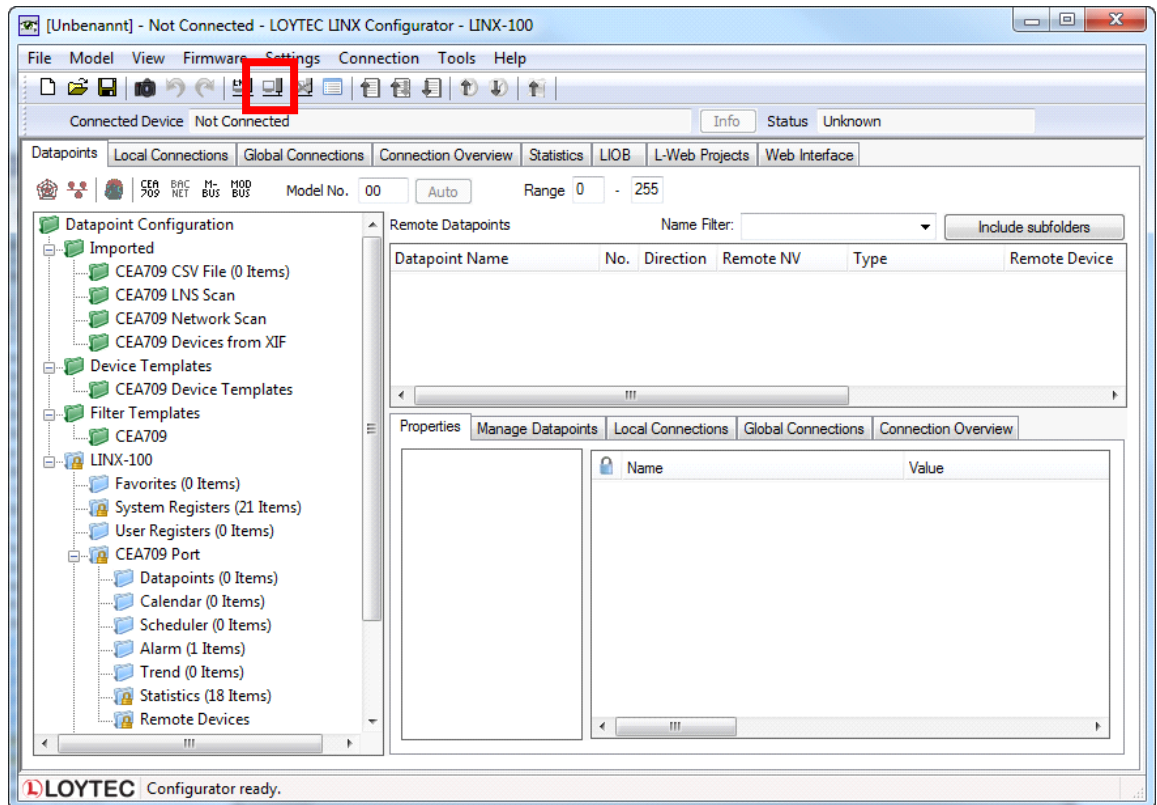

Figure 13: L-INX Configurator main screen.
1. Start the L-INX Configurator software by selecting Windows **Start** → **Programs** → **LOYTEC LINX Configurator** → **LOYTEC LINX Configurator**. The application starts up and displays the data point manager screen as shown in Figure 13.
2. When the device is online, connect to the device by clicking on the **Connect to device** speed button as indicated by the red rectangle in Figure 13.